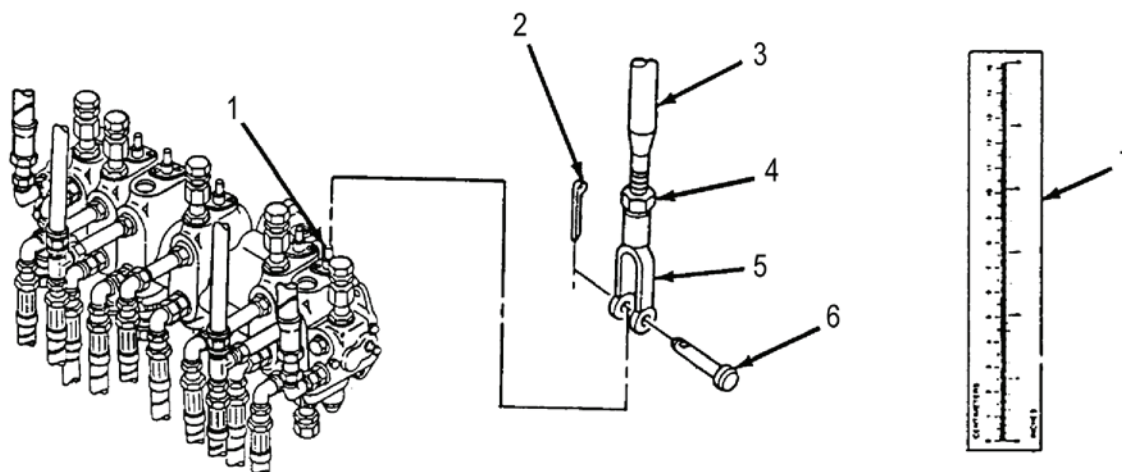

Figure 8. SPRUNG/UNSPRUNG Control Valve Control Rod Travel
- Note position of control valve plunger (Figure 8, item 1) when SPRUNG/UNSPRUNG control lever is in neutral (off) position.
- Remove cotter pin (Figure 8, item 2), straight pin (Figure 8, item 6), and clevis (Figure 8, item 5) from control valve plunger (Figure 8, item 1). Discard cotter pin (Figure 8, item 2).
- Loosen jam nut (Figure 8, item 4). Turn clevis (Figure 8, item 5) clockwise to shorten rod (Figure 8, item 3) and counterclockwise to lengthen rod (Figure 8, item 3) as necessary to obtain correct control valve plunger (Figure 8, item 1) travel.
- Hold measuring device (Figure 8, item 7) on face of SPRUNG/UNSPRUNG control valve. Have assistant move SPRUNG/UNSPRUNG lever between SPRUNG and UNSPRUNG mode. Measure distance of plunger travel.
- When rod (Figure 8, item 3) is adjusted for the desired length of travel, coat threads of rod (Figure 8, item 3) with sealing compound primer and sealing compound. Tighten jam nut (Figure 8, item 4) against clevis (Figure 8, item 5).
- Connect clevis (Figure 8, item 5) to control valve plunger (Figure 8, item 1) with straight pin (Figure 8, item 6) and new cotter pin (Figure 8, item 2).